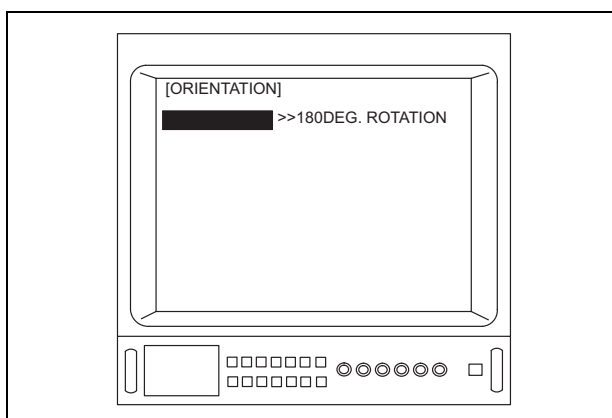

Figure 5.134
6. Depress the menu switch “↵” or the “Enter” key on the keyboard to adjust “ORIENTATION” (see Figure 5.134).
Depending upon the OTV-S7V's settings, the menu shown in Figure 5.134 may appear different from that displayed on the video monitor.